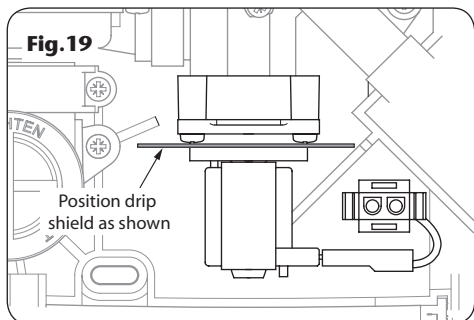

Fig. 19
**Note:** The plug and socket can only fit one way. Take care to ensure the flexible drip shield around the solenoid is positioned correctly (**fig.19**).